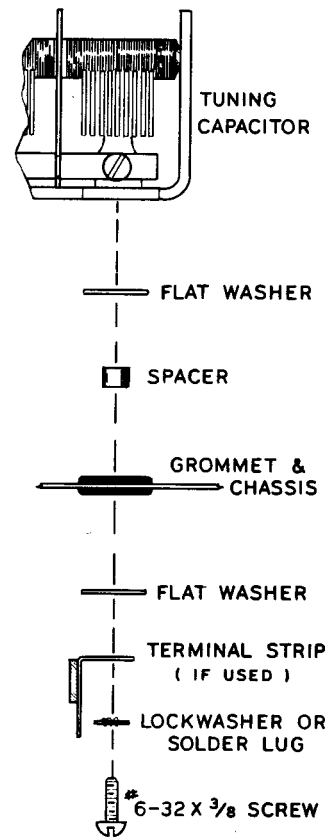

Figure 4
- () Mount the tuning capacitor HH as in Pictorial 2. Use 6-32 x 3/8 screws, large flat washers, 3/16" spacers and solder lugs on the two holes nearest the chassis edge. A 2-lug terminal strip EE, lockwasher, flat washer and 3/16" spacer are used at the third hole. Refer to Pictorial 1 and Figure 4.